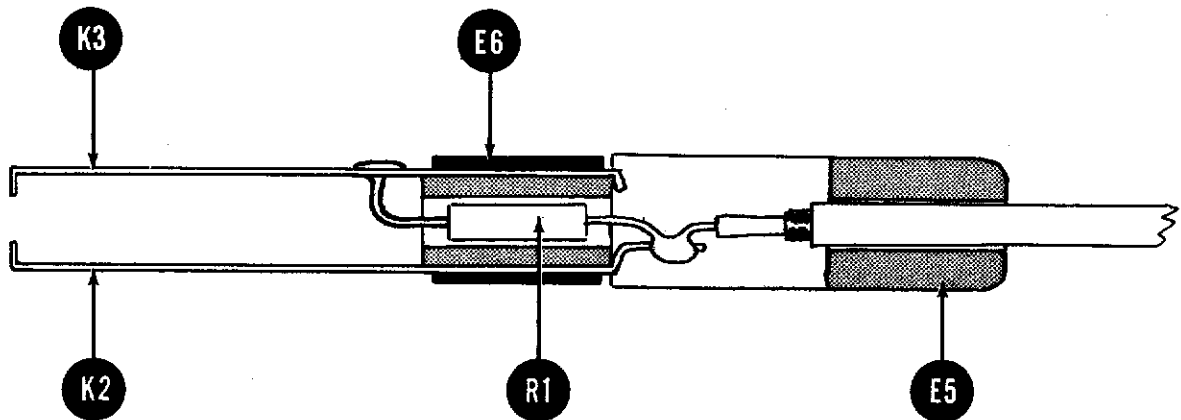

Fig. 10
- () Fig. 10. Position the contact holder assembly just completed so that the free ends of contacts K2 and K3 are at the left with K3 (small hole) on top. If the contact holder assembly, positioned as just described, is held at eye level in front of you, it will be seen as shown in Fig. 10. Position the body of the $1\text{ M}\Omega$ resistor R1 as shown, and pass one lead through the small hole in K3. Then trim off the excess lead and solder the connection between R1 and K3. Connect the other lead of R1 to the extension of the bottom contact K2 by first shaping the lead to lay flat against the K2 extension and then bending it back underneath. Close the U-shaped bend in the lead with a pliers to grip the K2 extension firmly and trim off the lead. The connection will be soldered in the next step.
- () Fig. 10. At one end of the co-axial cable strip away $1/2''$ of outside insulation and outer metal braid and $1/4''$ of inner insulation to expose the inner conductor. Insert the co-axial cable end so prepared in E5 as shown, and solder the inner conductor to the extension of contact K2, to which one lead of R1 was previously connected.